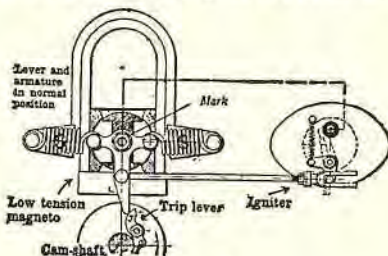
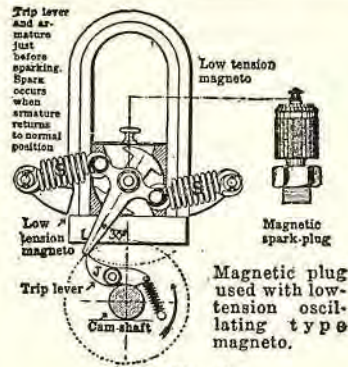

Fig. 48
Fig. 49
This type is a regular shuttle or armature type magneto (Figs. 48 and 49), and is the original magneto principle, designed for slow-speed engines. The armature does not revolve, but oscillates back-and-forth from position Fig. 48 to Fig. 49 (30°).
It can be used with an igniter arrangement (Fig. 48), which is similar to that shown in Fig. 13, page 185, except that the igniter rod is actuated by lever (L) on the magneto, which is tripped by trip (J). It can also be used with a magnetic plug, as shown in Fig. 49, which is screwed into the cylinder.